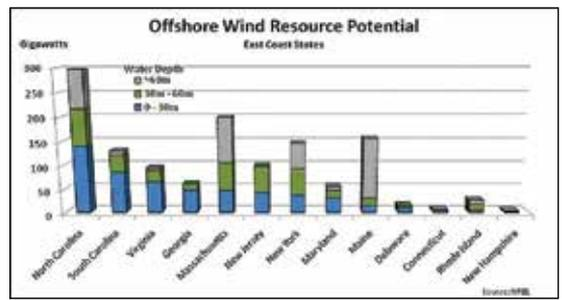

Figure 1: The Southeast region represents 45% of the total offshore wind resource and 82% of the resource in shallow water and more than 12 miles offshore.
According to the National Renewable Energy Laboratory (NREL), the Southeast region represent 45 percent of the total East Coast offshore wind resource and 82 percent of the resource in shallow water and more than 12 miles offshore, as shown in Figure 1. (10) NREL resource maps show that average wind speeds are slightly lower in the southern states. However, the most important metric is ultimately the Levelized Cost of Energy (LCOE), and the Southeast has numerous advantages that should result in lower LCOE in the region.